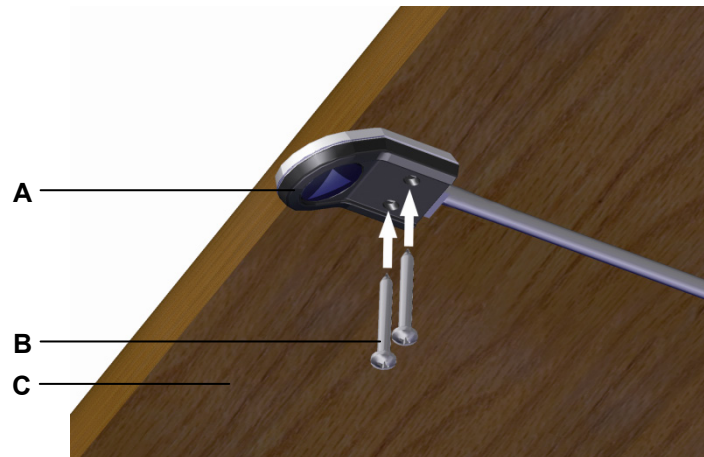

Figure 22 Example: Mounting the Motion Assist control keypad
Two screws are used to attach the Motion Assist control keypad to the underside of the table (at the table's front edge), as shown in Figure 22.
- ▶ Example: Use screws (B in Figure 22) which meet the requirements of DIN 7981 with  $\varnothing$  3.9 mm and of suitable length (10 mm plus the screw-in depth into the table), screw head:  $\varnothing$  7.5 mm.